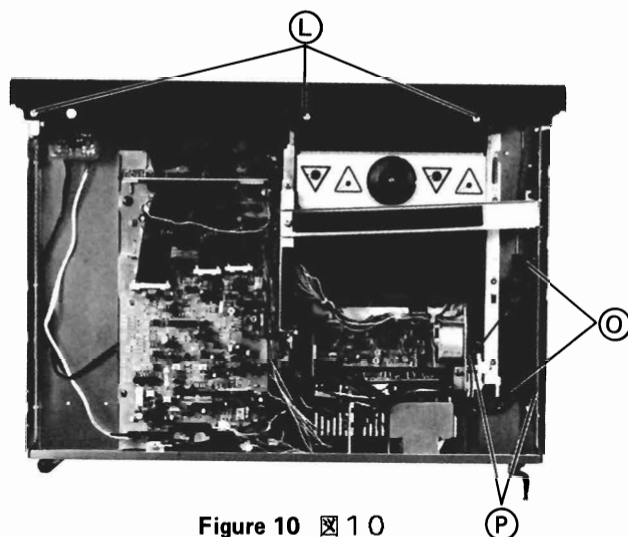

Figure 10 図 10
- (1) Remove top cover, tray panel, and tray mold.
- (2) Remove seven screws (L), (M) and (N) securing front panel, and the front panel assembly will be removed. (Pay attention to connector leads and joint of power supply switch.) (See Figure 10, 11 and 12)
- (1) After removing front panel, remove two screws (O) and two rivets (P). (See Figure 10)